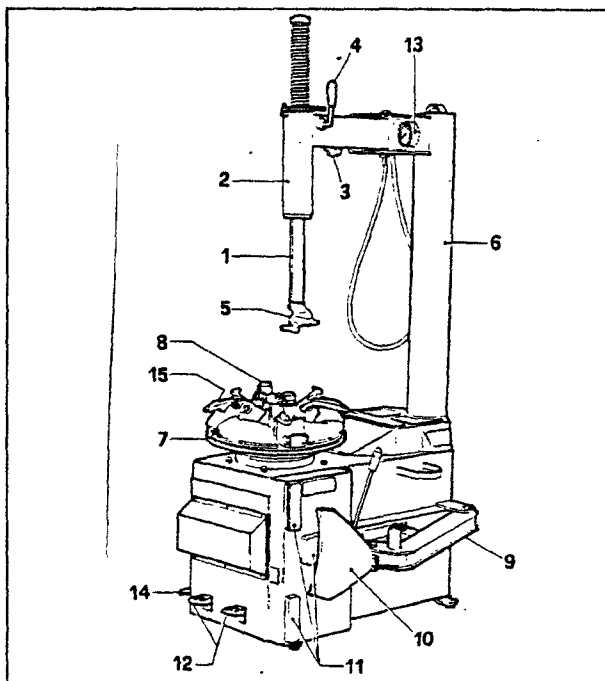

Fig.1
F. Push inflation pedal (#5 Fig.1 left side of the machine) half stroke: air flows from hose.
G. Press the air inflator full stroke (#5 Fig.1): and a large volume of air will flow from the inflator jets of the clamps to seat the beads of tubeless tires. Air will simultaneously flowing from inflation hose.